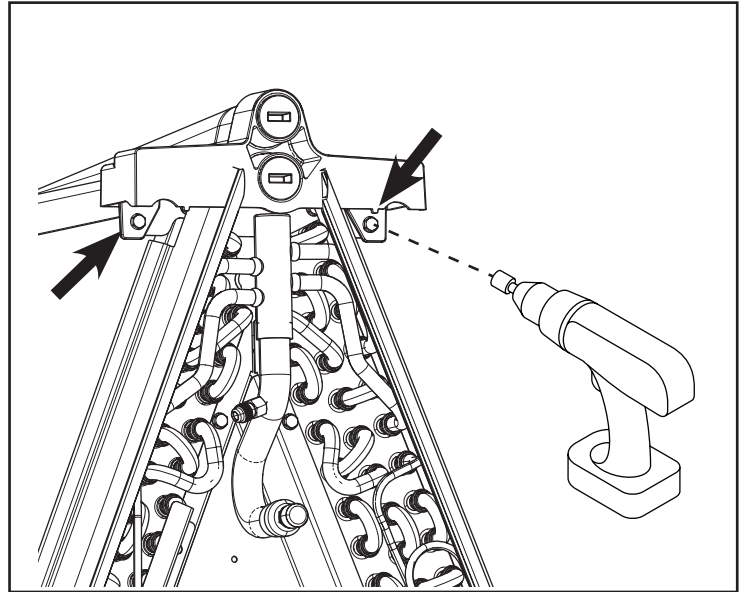

Figure 50 – Remove Upflow Drain Pan
11. Remove the upflow drain pan by removing the four screws attaching it to the coil (See Figure 50). Keep drain pan and four screws. Note: two screws are on the opposite side and not visible in the illustration.